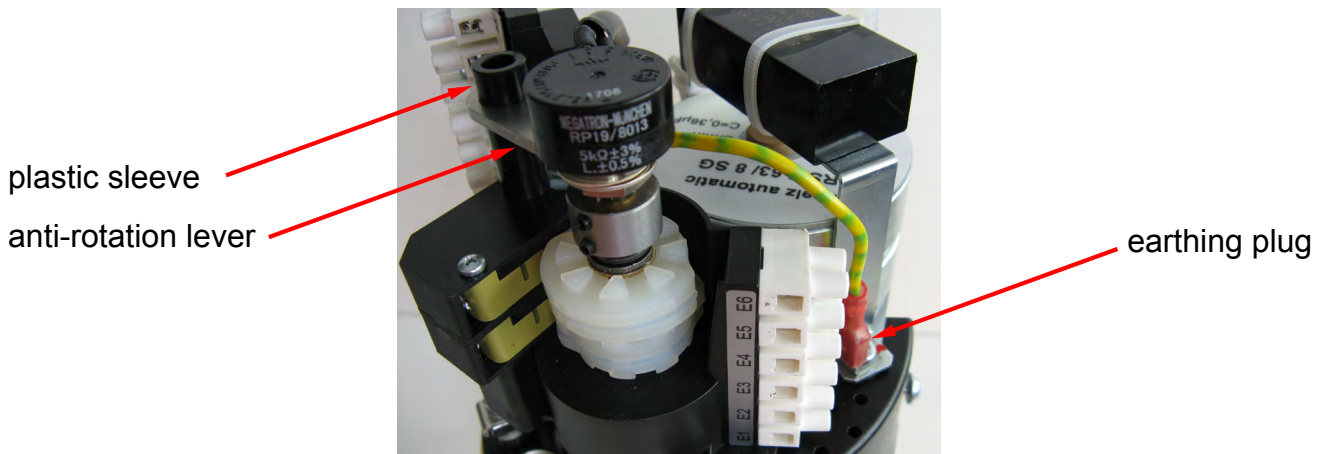

Fig. 17: Fitting a potentiometer to the 2EZ assembly
- Place the potentiometer assembly onto the spindle of the 2EZ assembly, inserting the black plastic sleeve of the 2EZ assembly into the hole in the anti-rotation lever. Connect the earthing plug to the small metal connector next to the motor (Fig. 17).